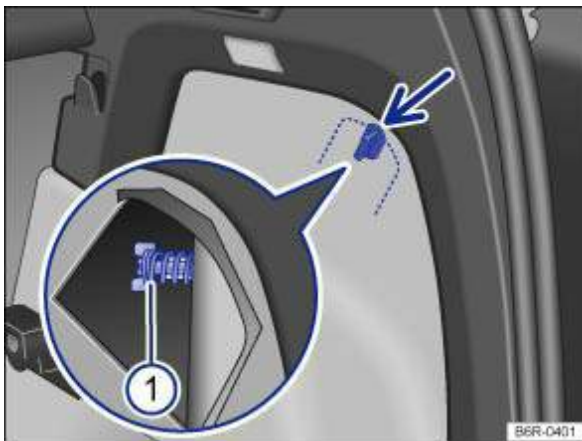

Fig. 217 On the side of the luggage compartment: removing the tail light cluster
3.	Turn the sash fastener → <a href="#">Fig. 217</a> (arrow) in the side trim of the luggage compartment to the side.
6.	Unscrew the securing bolts by hand → Fig. 217 ① .
13.	Use one hand to hold the tail light cluster in the fitting position while using the other hand to screw the securing bolt firmly back on → Fig. 217 ① .